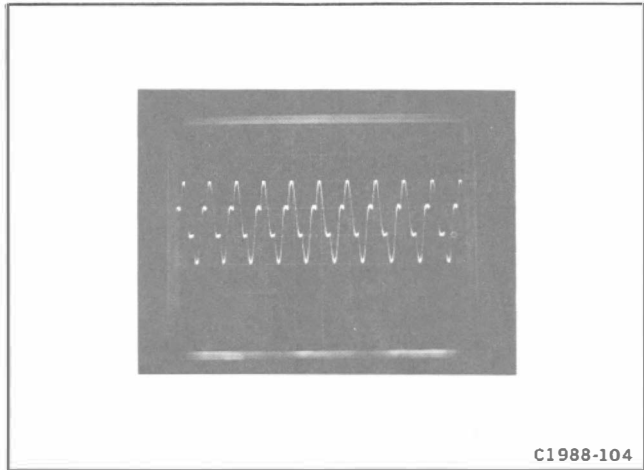

Figure 4-7. Current waveform at A23T30 for normal Inverter operation at line voltage of 115 volts.
5. If a burst waveform was obtained in part 4 above, check for stable inverter operation when the line input voltage is increased to about 85 volts. Figure 4-7 shows the current waveform at A23T30 for normal inverter operation at a line source of 115 volts. (NOTE: The test oscilloscope horizontal sweep rate has been changed to about 50 microseconds/division for Fig. 4-7).